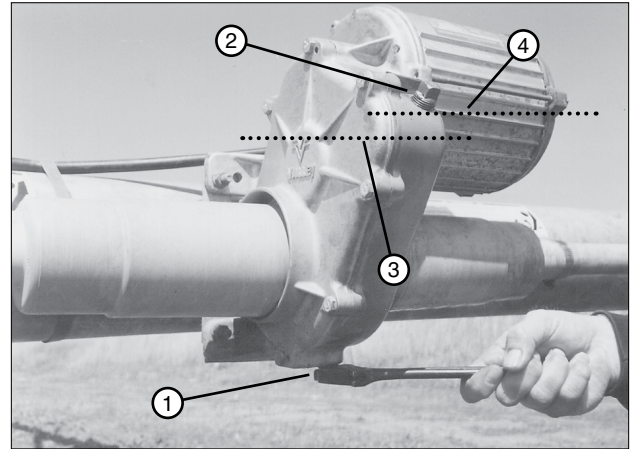

Figure 75-1 1. Drain Plug
1. Remove the drain plug and the fill plug. Drain the oil and install the drain plug. See Figure 75-1.
2. Fill the gearbox 1-7/8 in (48 mm) from the bottom of fill plug hole with Valley Gear Lube. The capacity of the gearbox is approximately 44 oz (1.3 liter). See Figure 75-1.